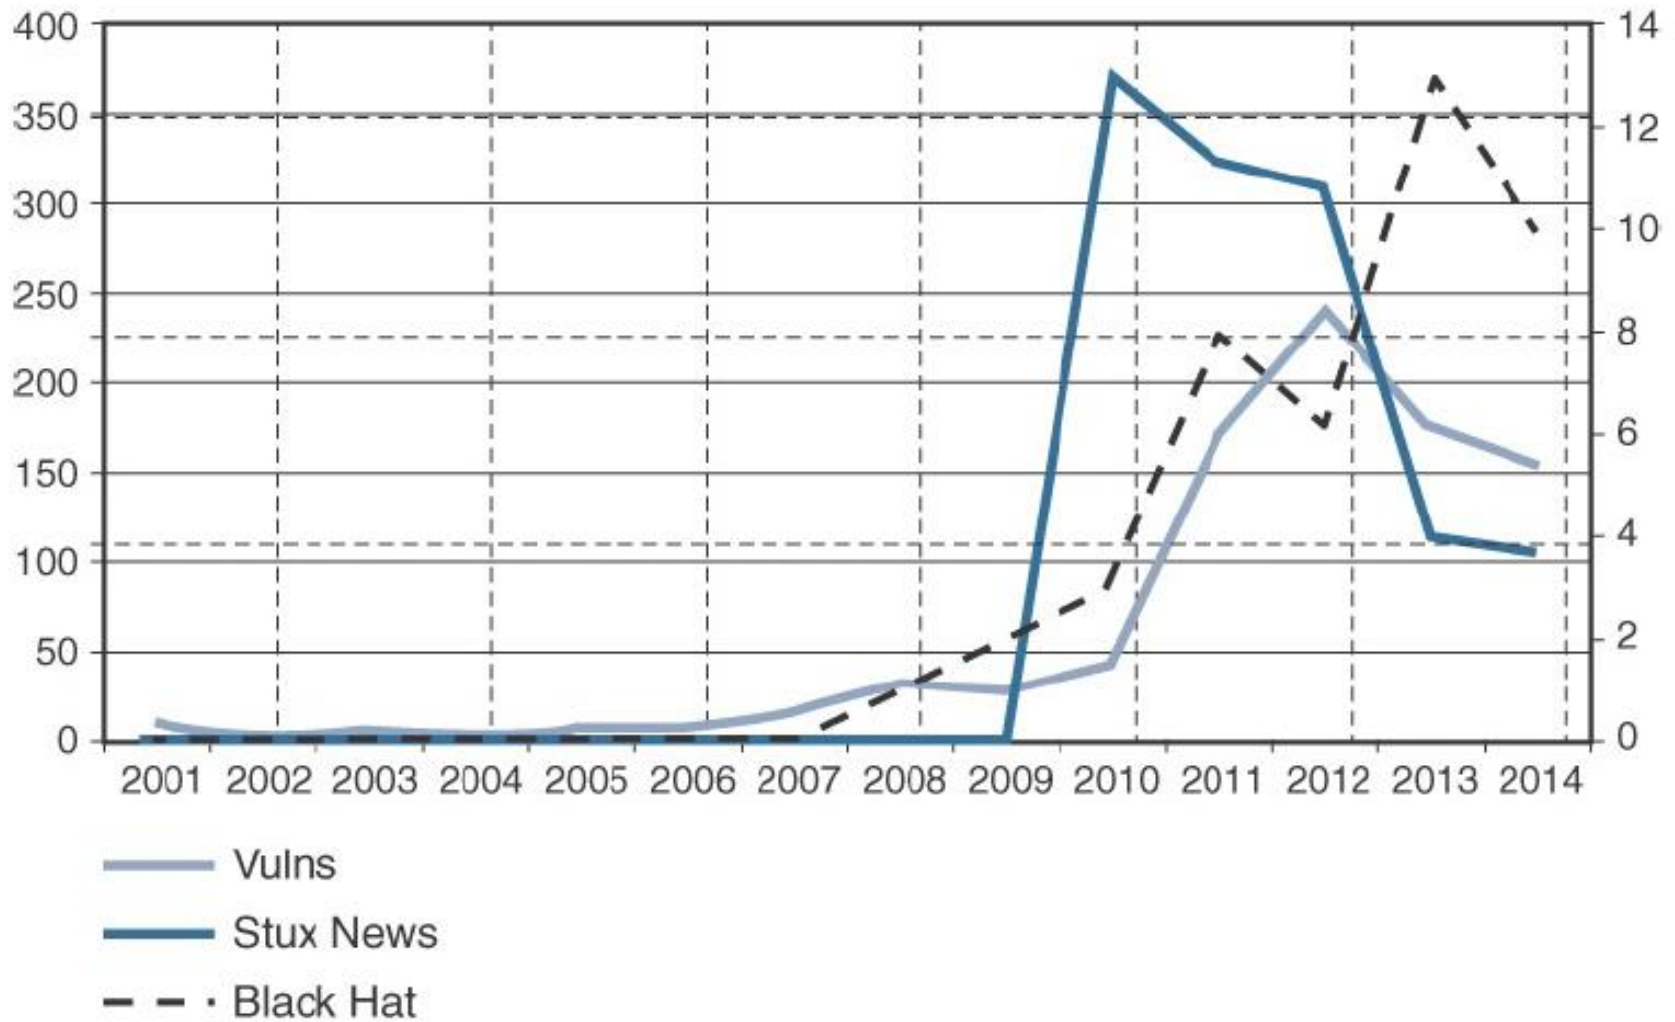

Figure 8.2 : Correlation of Industrial Black Hat Presentations with Discovered Industrial Vulnerabilities
- The figure 8.2 shows this **graphically** by simply overlaying the count of industrial security topics presented at the Black Hat security conference with the number of vulnerabilities reported for industrial control systems.